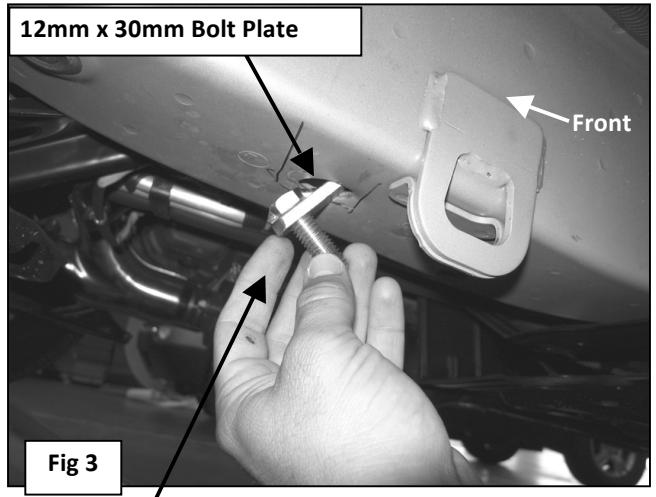

Fig 3
4. Insert (1) 12mm x 30mm Bolt Plate into the factory hole in the inner frame rail located next to the front tie down loop, (**Figure 3**).